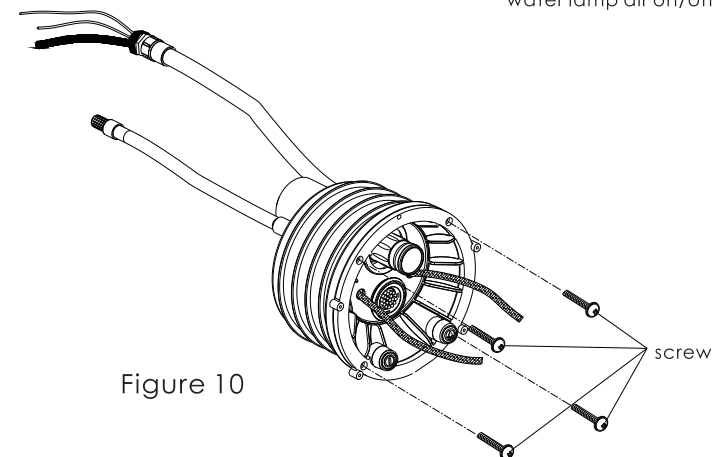

Figure 10
- 2) Pass through the two pipes respectively from the hole of the support frame; and then use 4 M6 screws to fix the support frame onto the shell. (Figure 10)